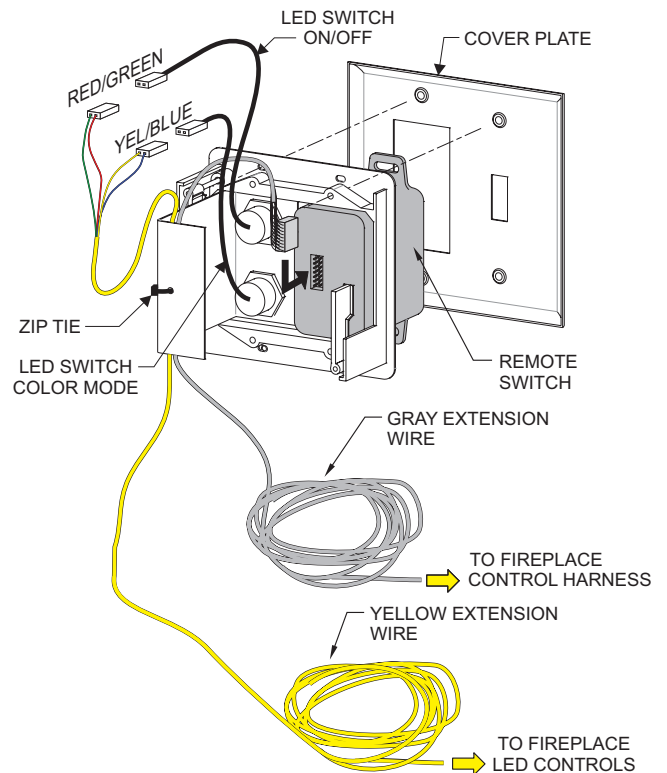

Figure 46
14. Route the yellow LED wire harness with gray remote receiver harness through the bushing. Mount the controls and connect the wiring. Secure wiring with provided zip tie as shown. See Figure 46.